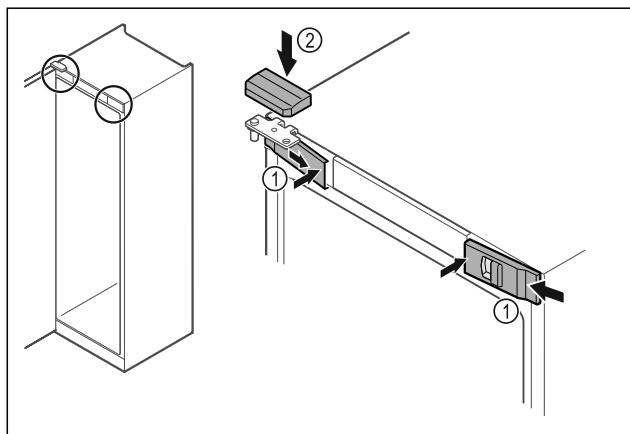

Fig. 45
- ▶ Hook in the front covers Fig. 45 (1) on the side and snap them into place on the inside.
- ▶ Snap on the top cover Fig. 45 (2) from above.